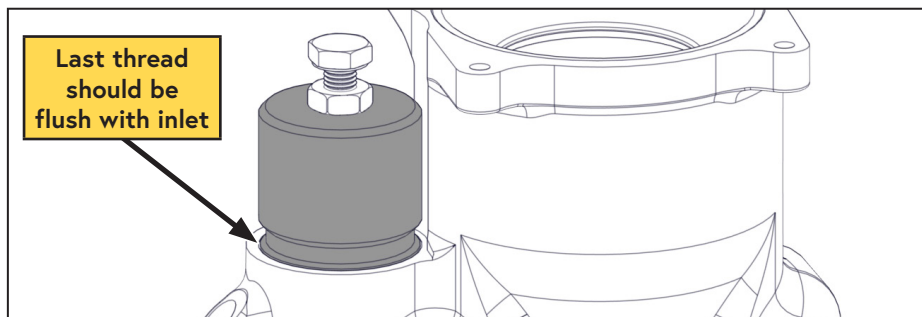

Figure 3 — Install O-rings and blanking plate
11. Thread the regulator cover onto the inlet and hand tighten until it is in contact with the rubber diaphragm and tighten an additional 1/8 turn. The innermost thread on the regulator cover should be flush with the inlet (Figure 3).